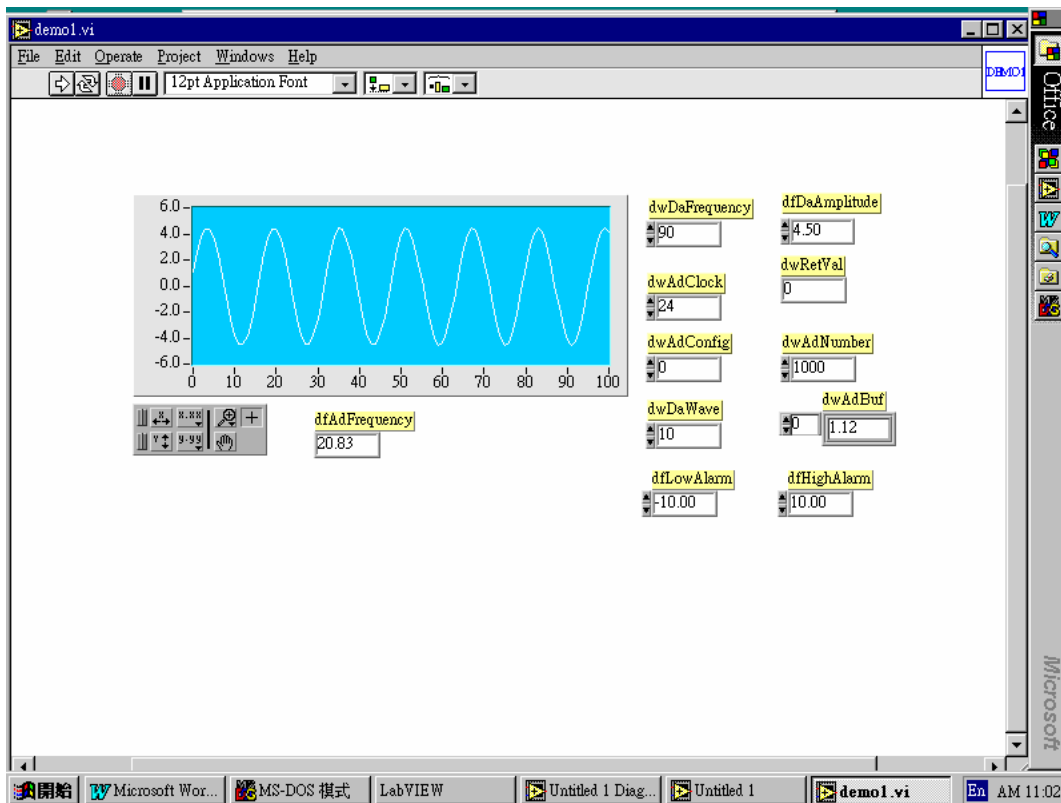
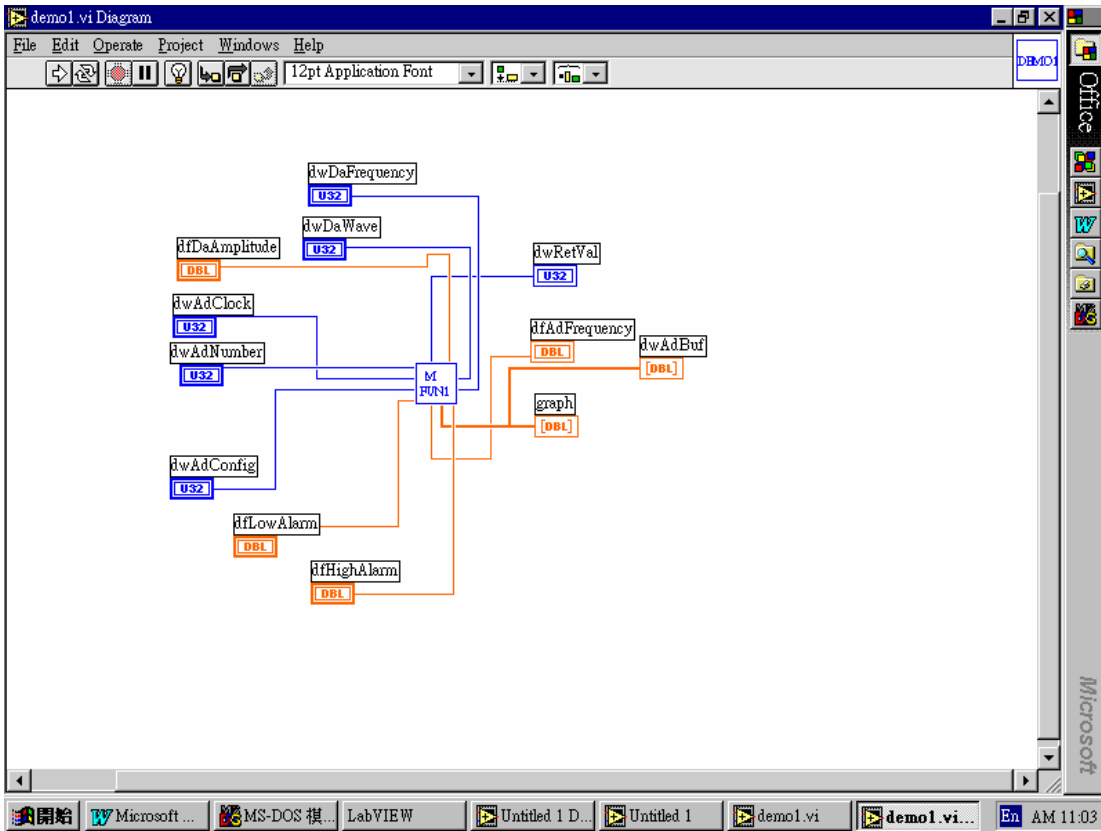

Fig 8. The output of DEMO1.VI (call M_FUN_1)
Fig 9. The connection diagram of DEMO1.VI (call MFUN1.VI)
2. The demo1.VI will call MFUN1.VI to perform M_Functions. The M_Functions can send out an arbitrary waveform to the D/A output port and perform the A/D operation at the same time. If D/A channel_0 is connected to A/D channel_0, M_Functions can measure the D/A output back. The output response is shown in Fig 8 and the connection diagram of demo1.VI is given in Fig. 9.